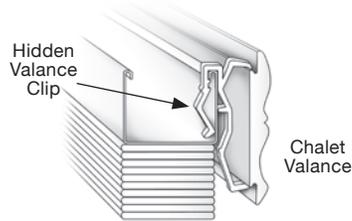

Figure 7
2. Snap valance into valance clips (Fig. 7).